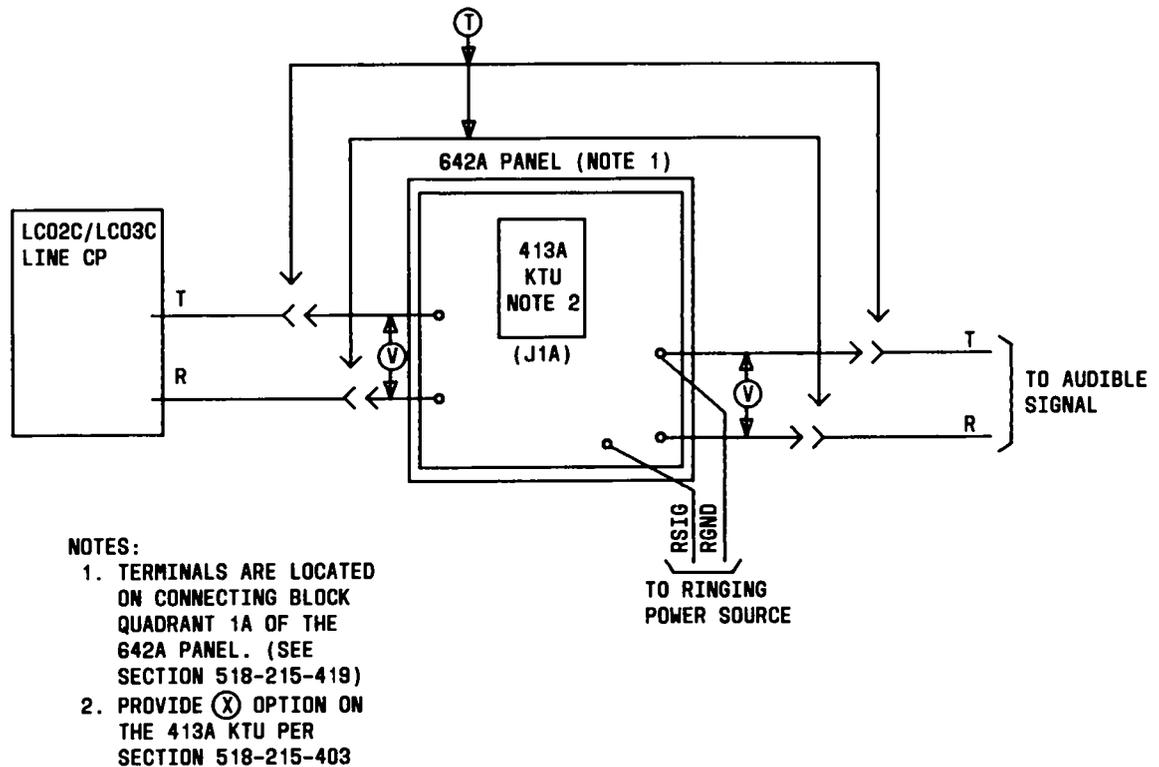

Fig. 46—TAAS Arrangement
4.135 This feature is assigned one line circuit on an LC02C circuit pack. The signaling device (gong, bell, chime, etc) is connected directly to the assigned line circuit (option T). If the line circuit capacity is exceeded, an isolating circuit must be provided (option V) (Fig. 46).